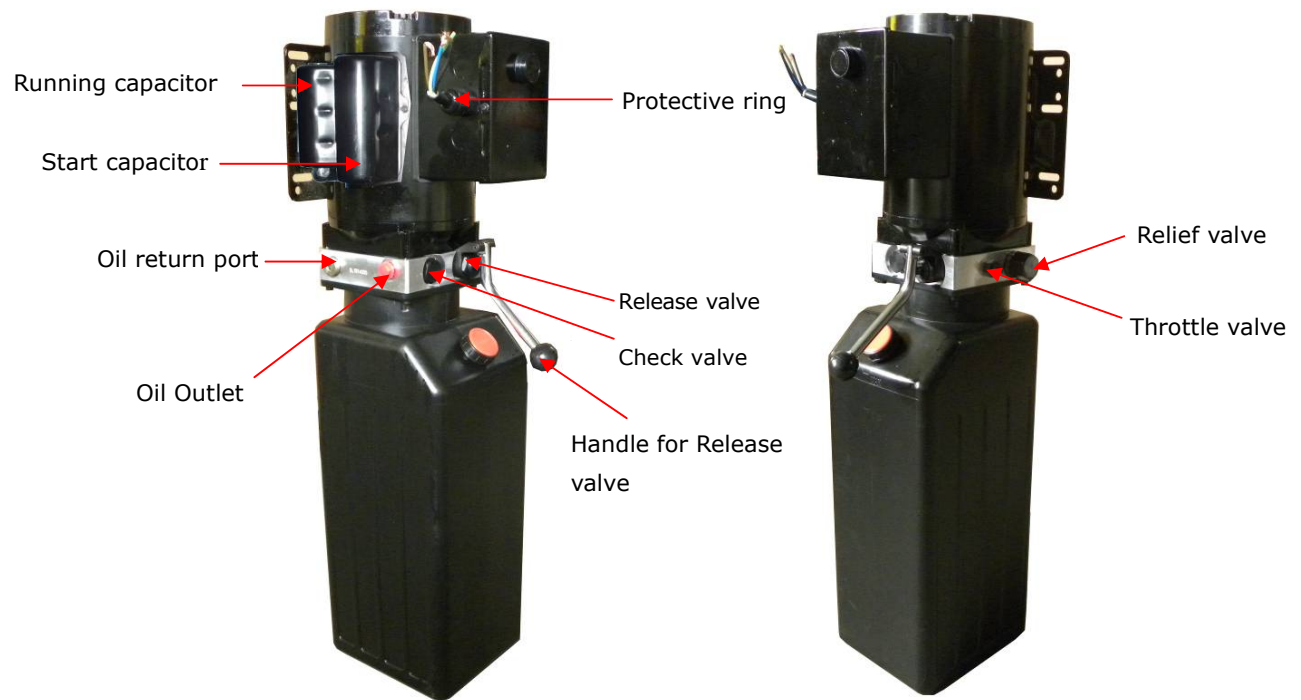

Fig. 43
b. PEAK manual power unit, 220V/60HZ, Single phase (See Fig. 43)